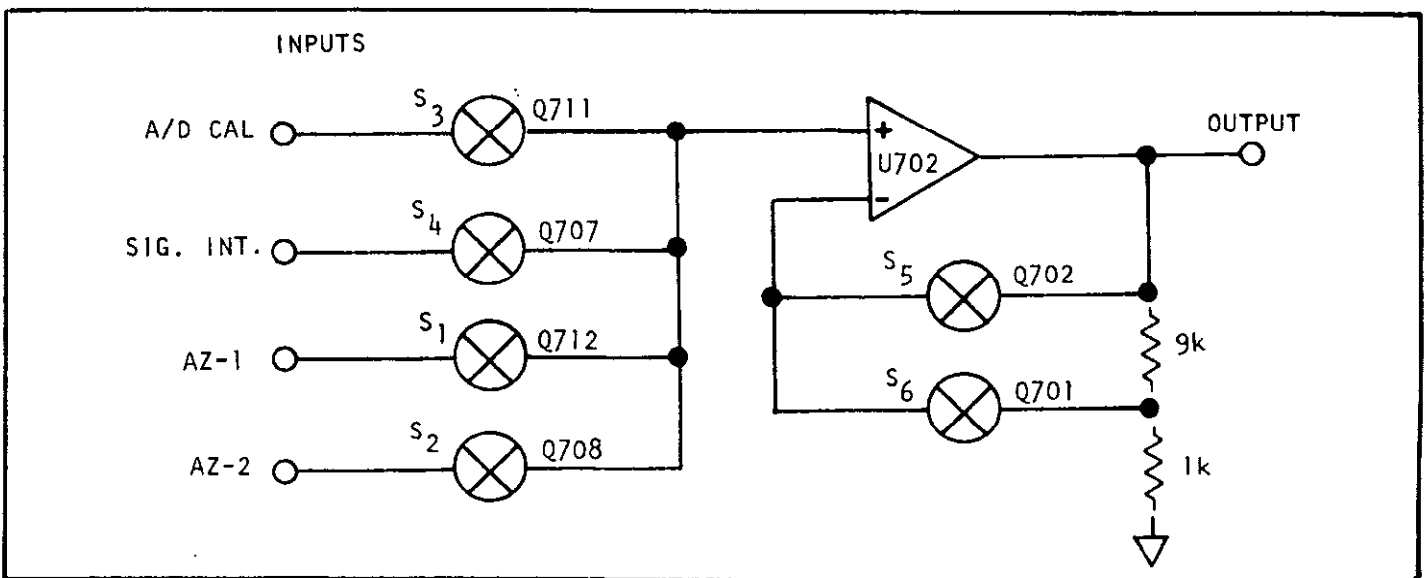

FIGURE 5-13. Simplified Schematic of A/D Buffer.
d. A/D Buffer. The buffer (shown in Simplified Schematic, Figure 5-13) performs two functions. It has four multiplexing JFET switches (S1 through S4) that connect the necessary inputs to the A/D converter to provide the four basic modes of operation. The driving signals (Z1, Z2, R and NS) for the multiplexing switches come from LSI circuit U901. The second function of the buffer is to provide two gains (x1 and x10) which give 3V and 0.3V ranges, respectively. Buffer gain during AZ-1 and ACAL is x1 for V, A and every other Ω range. Buffer gain during AZ-2 is the same as signal integrate, which is x10 on 300mV, 30V, L0 Ω , 300mA on 172A and all current ranges of 173A. A gain of x1 is used elsewhere. LSI chip U901 controls S5 and S6 (Q702 and Q701) via the G10 line.